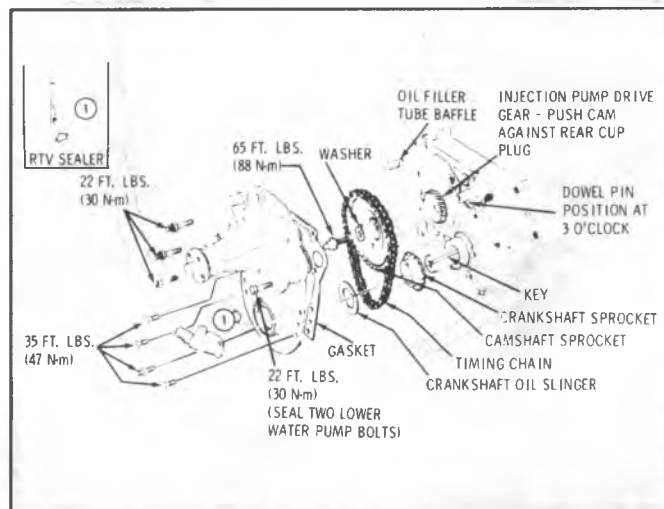

Fig. 6A6-86--Engine Front Cover Bolts
11. Install timing indicator and water pump assembly. Then torque bolts evenly as shown in Fig. 6A6-86.